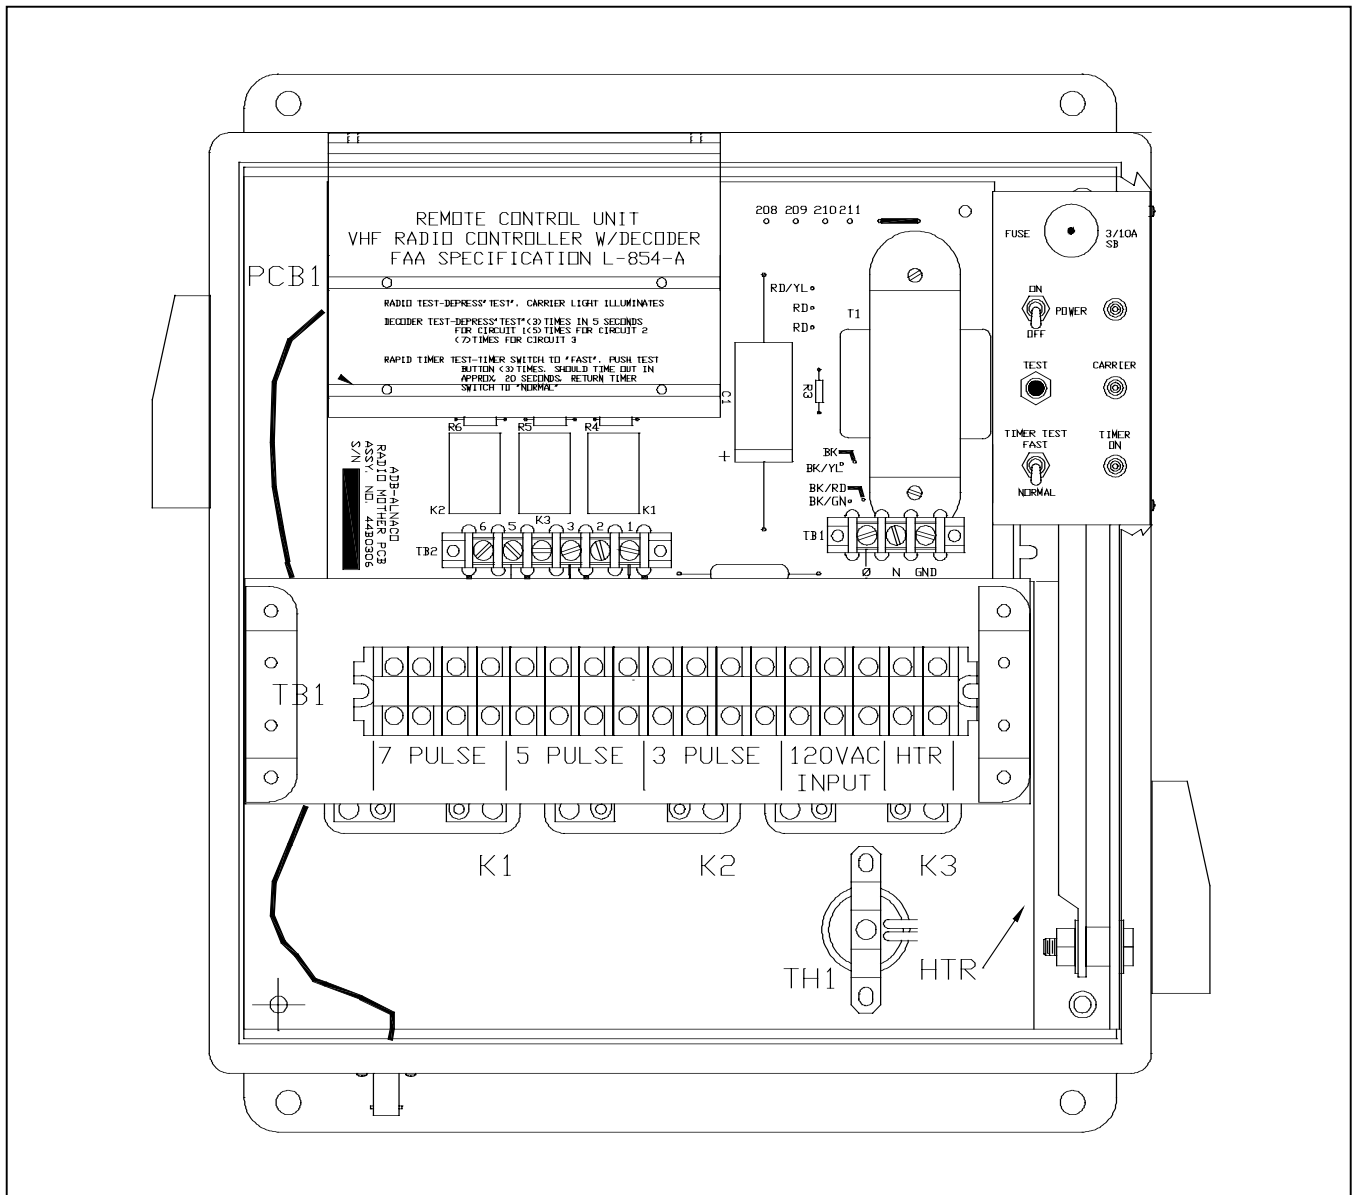

Figure 2. RL-854 Main Assembly
See Figure 2. Power is supplied to the motherboard via terminal block TB1. Fuse F1 protects and switch S1 switches the power to the primary power of transformer T1. T1 has two 120 V ac primary windings that are operated in parallel.
4. See Figure 2. Connect 120 V ac to terminal TB1 as follows:
- a) Black wire to line (L) terminal
- b) White wire to neutral (N) terminal
- c) Green wire to ground (G) terminal